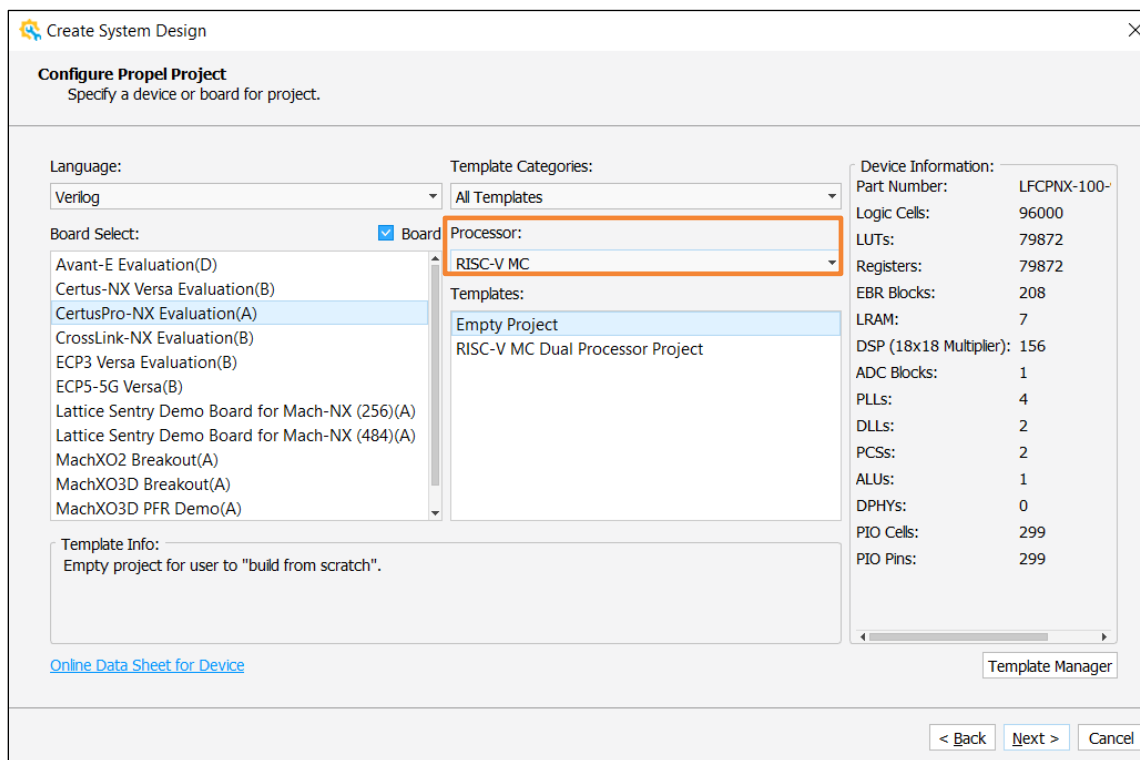

Figure 2.35. Specify a Board for Template SoC Project (3)
8. (Optional) About the Processor section (Figure 2.35):